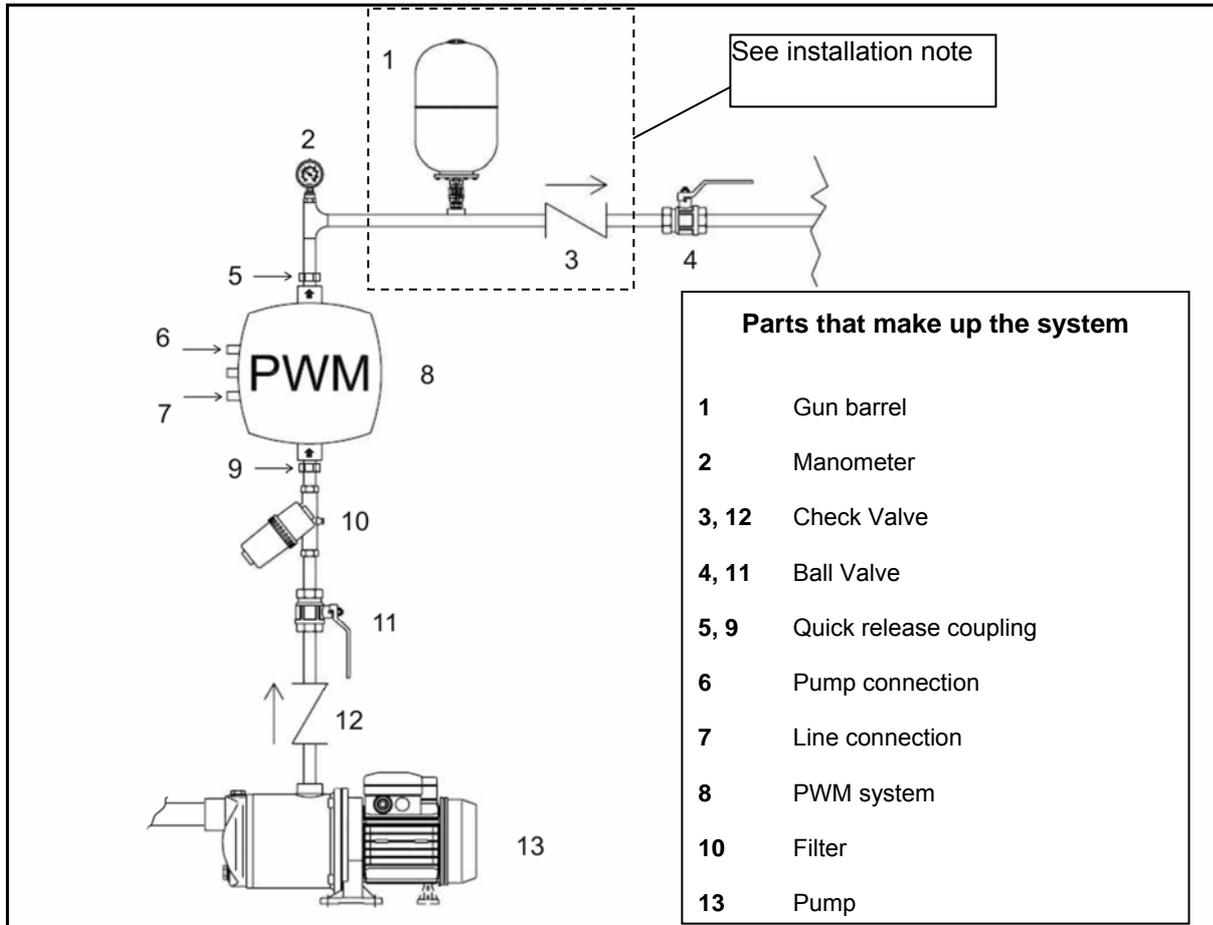

Figure 1: Hydraulic diagram
Always install a check valve on the pipe between pump and PWM as shown in Figure 1 part n° 12.
We recommend installing another check valve after PWM and an expansion Tank between the check valve and PWM (see Figure 1 part n°1 and 3), on all Installation on which there's a possibility to have water hammering (e.g. irrigation whose flow is unexpectedly blocked by the check valve). The check valve between pump and PWM mentioned above (12) **is necessary**.